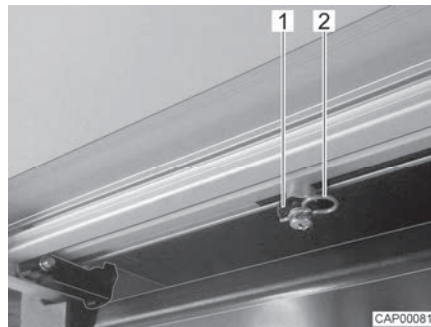

Fig. 8 Drive rod (entrance step)
- On the bottom of the entrance step, pull off both locking clips (Fig. 8,2) on the drive rods (Fig. 8,1).